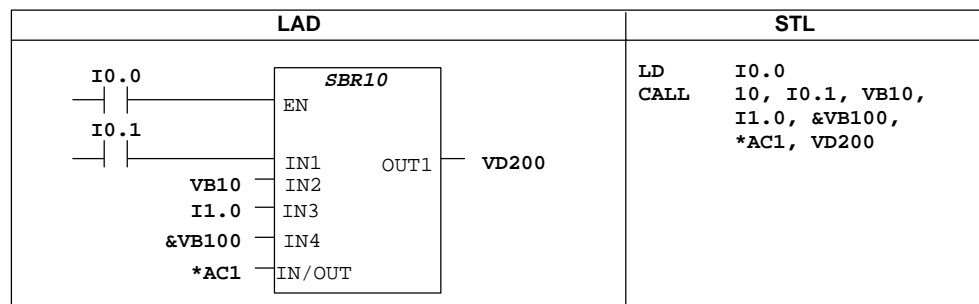

Figure 9-54 Subroutine Call in LAD and STL
- **Power Flow:** Boolean power flow is allowed only for bit (Boolean) inputs. This declaration tells STEP 7-Micro/WIN 32 that this input parameter is the result of power flow based on a combination of bit logic instructions. Boolean power flow inputs must appear first in the local variable table before any other type input. Only input parameters are allowed to be used this way. The enable input (EN) and the IN1 inputs in Figure 9-54 use Boolean logic.
- **Boolean** - This data type is used for single bit inputs and outputs. IN2 in Figure 9-54 is a Boolean input.
Address parameters such as IN4 in Figure 9-54 (&VB100) are passed into a subroutine as a Dword (unsigned double word) value. The type of a constant parameter must be specified for the parameter in the calling routine with a constant describer in front of the constant value. For example, to pass an unsigned double word constant with a value of 12,345 as a parameter, the constant parameter must be specified as DW#12345. If the constant describer is omitted from parameter, the constant may be assumed to be a different type.